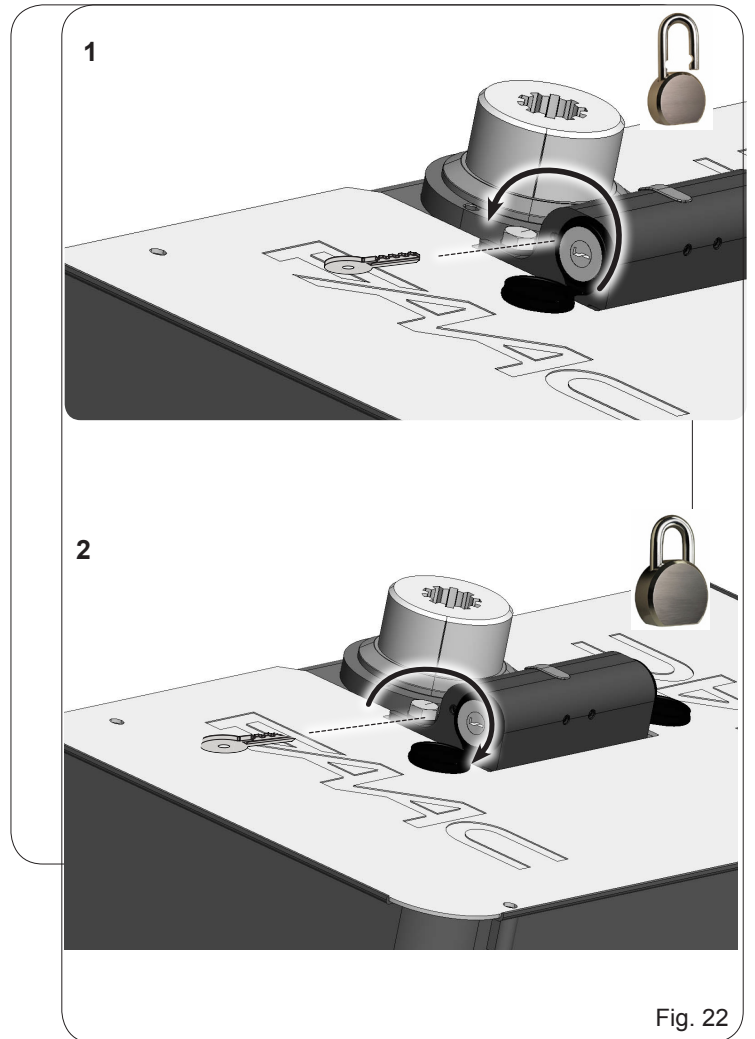

Fig. 22
To release the operator, remove the plastic cover, insert the key and turn the release lock counter-clockwise for about one turn. (Fig. 22 ref. 1)
To lock the operator again, turn the release lock clockwise until reaching the stop point, do not force (Fig. 22 ref. 2)